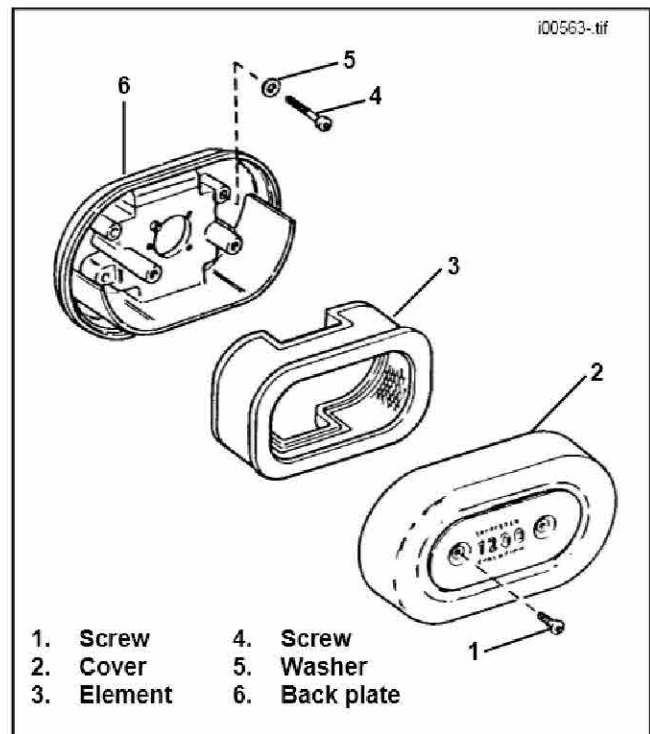

Figure 2. Air Cleaner Assembly
4. See Figure 2. Remove two screws (1), air cleaner cover (2) and air cleaner element (3).
5. Lubricate only the inside surface of seal ring (9) that will be in contact with the carburetor. Also apply a light coat of lubricant to the spigot of the carburetor body. Push carburetor body into seal ring (9). Carburetor and air cleaner back plate are still assembled.
7. See Figure 2. Install Allen screws (4) through air cleaner backing plate (6) and thread into tapped holes in cylinder head. Tighten to 10-12 ft-lbs.
12. See Figure 2. Place element (3) in air cleaner backing plate (6) and position cover (2) over element. Secure with screws (1) and tighten to 3-5 ft-lbs.